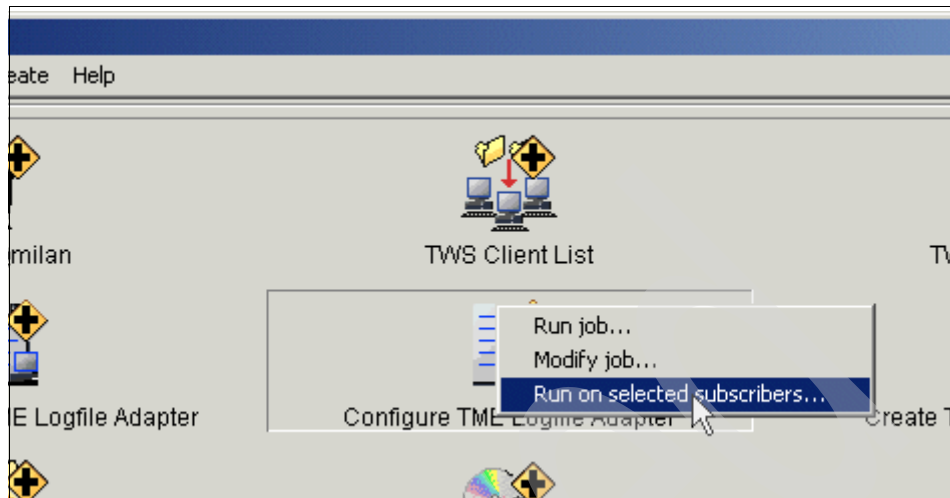

Figure 8-60 Configure TME logfile adapter on additional FTAs
6. Right-click the Configure TME® logfile adapter icon as shown in Figure 8-60 on page 385.